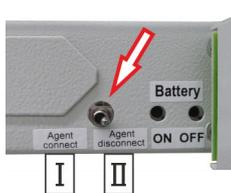

Fig. 24: Blocking switch
1. ➤ To block the system: Switch the blocking switch (Fig. 24/arrow) to "Agent disconnect [blocked]" (Fig. 24/II).